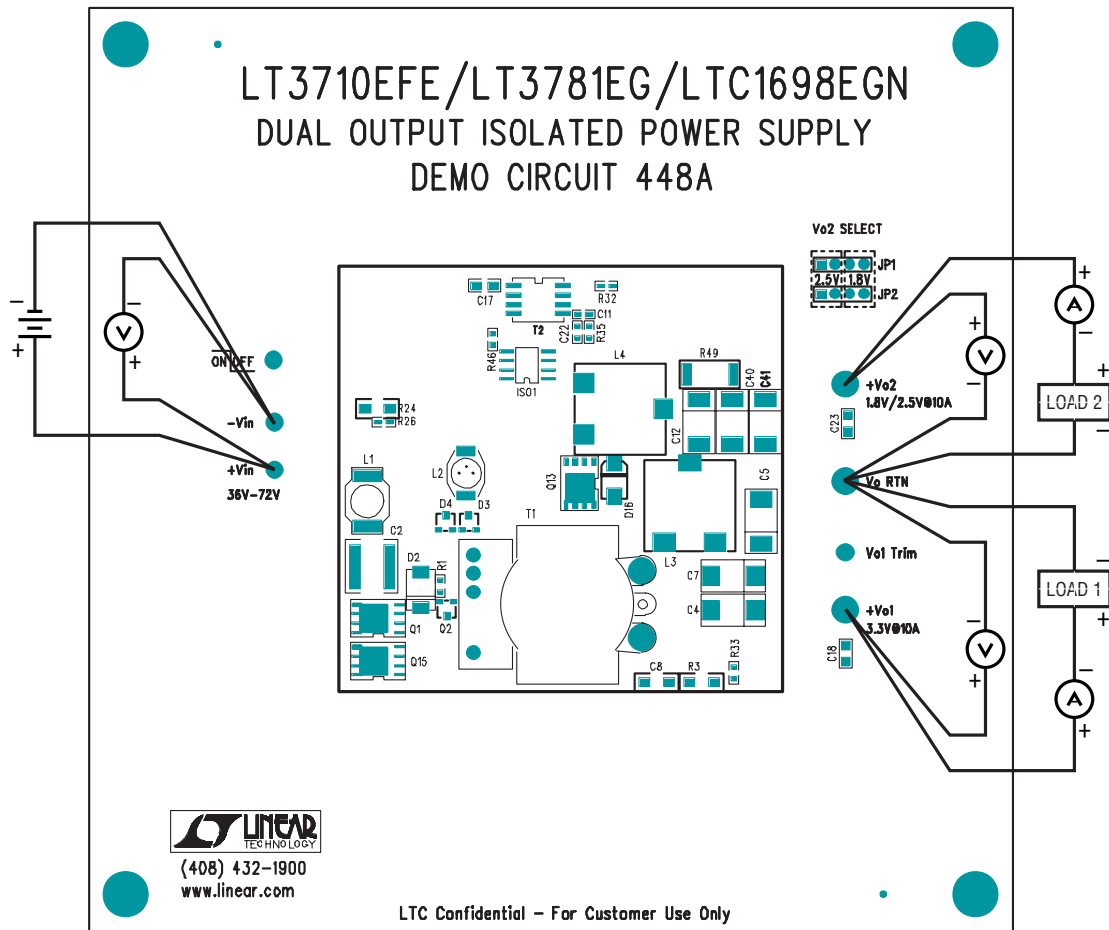

Figure 1. Proper Measurement Equipment Setup
Demonstration circuit DC448 is easy to set up to evaluate the performance of the LT3710, LT3781 and LTC1698. Refer to Figure 1 for proper measurement equipment setup and follow the procedure below:
5. Connect the 3.3V load (Load 1 in Figure 1) between $+V_{o1}$ and V_o RTN; connect the 1.8V/2.5V load (Load 2 in Figure 1) between $+V_{o2}$ and V_o RTN.